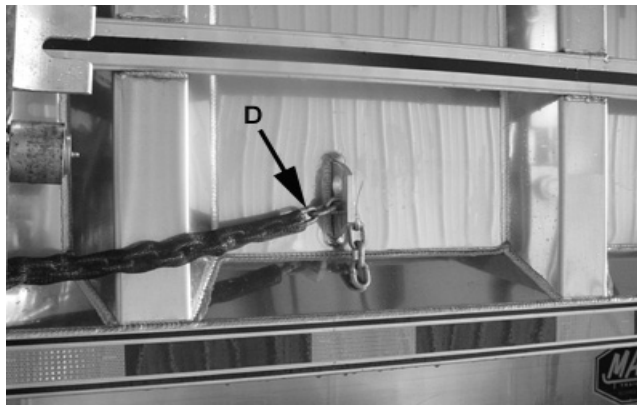

Figure 5-6 Anchor Door In Open Position
11. **Unloading Using The Side Swing Tailgate Only:** Swing tail gate fully open and insert chain (D) into anchor. Chain must be tight to prevent damage to the door. See figure 5-6.